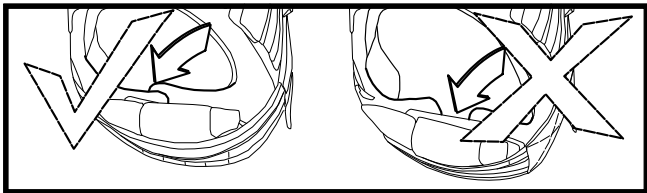

Figure 6. Correct Side Ballistic Protection.
- a. Carrier should fit snugly with no gaps or folds in fabric. There should be a 1-inch overlap of the front and back carriers under the arm (Figure 6). Readjust if necessary.